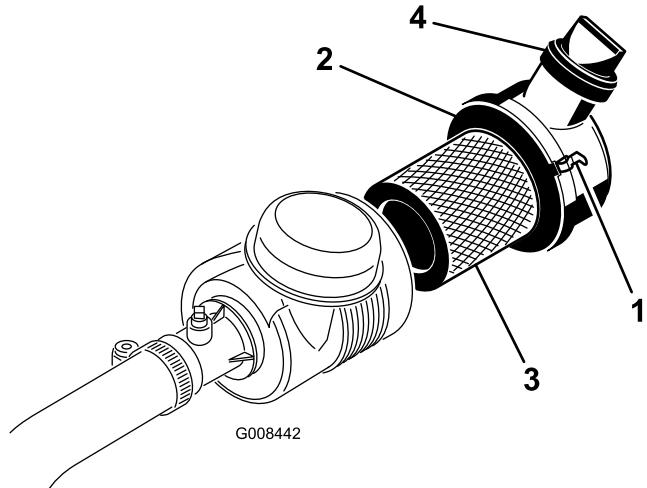

Figure 38
- Release the latches securing the air cleaner cover to the air cleaner body (Figure 38).
- Reinstall the cover and secure the latches (Figure 38).